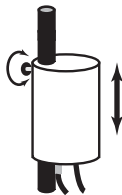

Figure 9
13) Loosen the Thumbscrew that holds the Canister to the pole and slowly slide the Canister up the pole until water *begins* to flow into the birdbath basin. Retighten the Thumbscrew to hold the Canister in place (Figure 9).